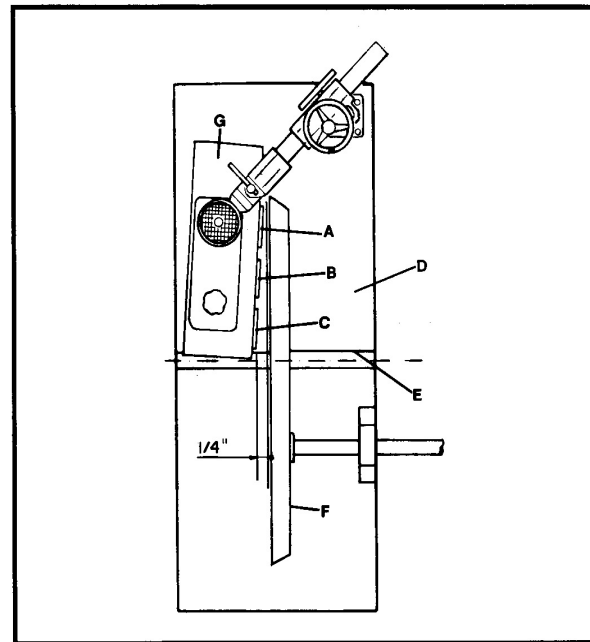

Fig. 13
The feeder assembly (G) should be positioned on a jointer in such a manner that all the rollers (A), (B) and (C) are over the outfeed table (D) of the jointer, as shown in Fig. 13. The first roller (C) should be approximately 1/4" from the leading edge (E) of the outfeed table and the third roller (A) should be approximately 1/4" closer to the fence (F) than the first roller (C). The downward pressure of the rollers on the stock should be as light as possible.